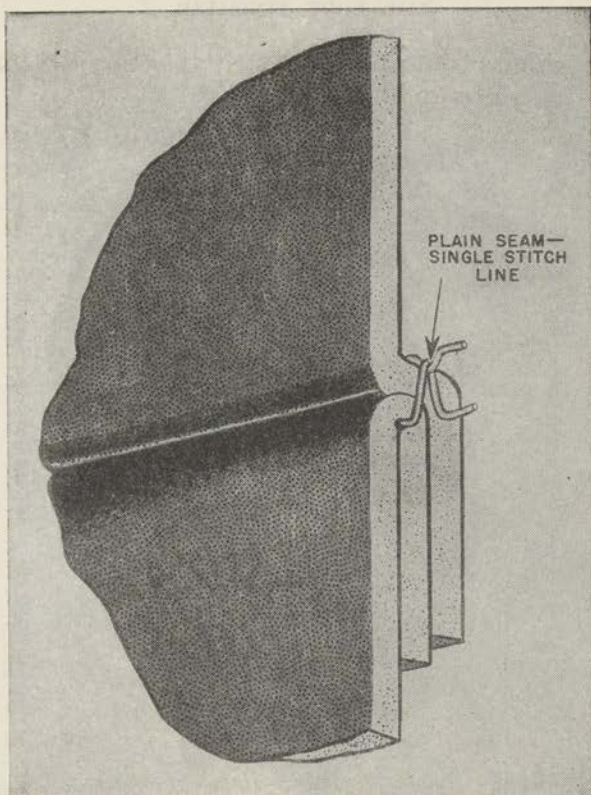

FIGURE 102.—Plain seam.
r. Seams.—(1) The plain seam (fig. 102) is used by itself or as a part of a more complicated seam.